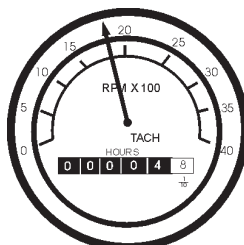

Figure 57. Engine Tachometer Gauge
19. The **tachometer gauge** (Figure 57) will indicate the speed of the engine when the generator is operating. Under normal operating conditions this speed is approximately 1800 RPM's.